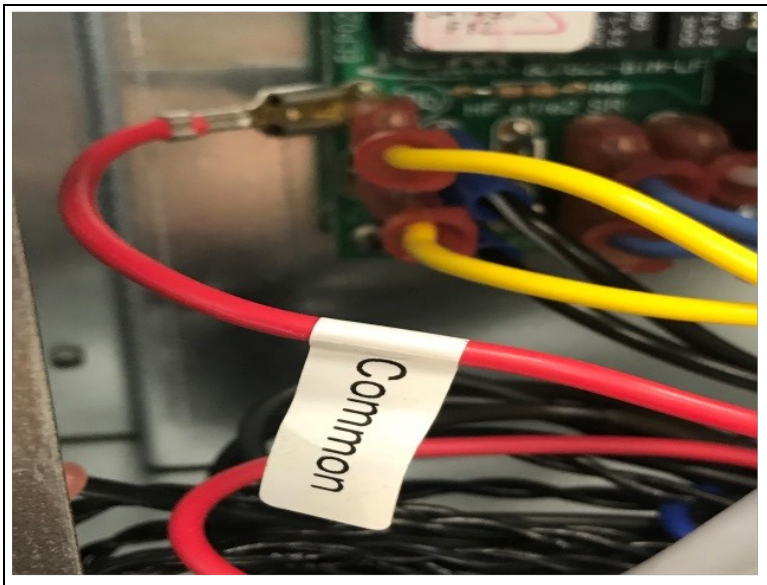

Figure 10
7. For reversing models, with single speed fans, that use an additional red wire connected to the yellow 24-Volt control board connection (Figure 10)